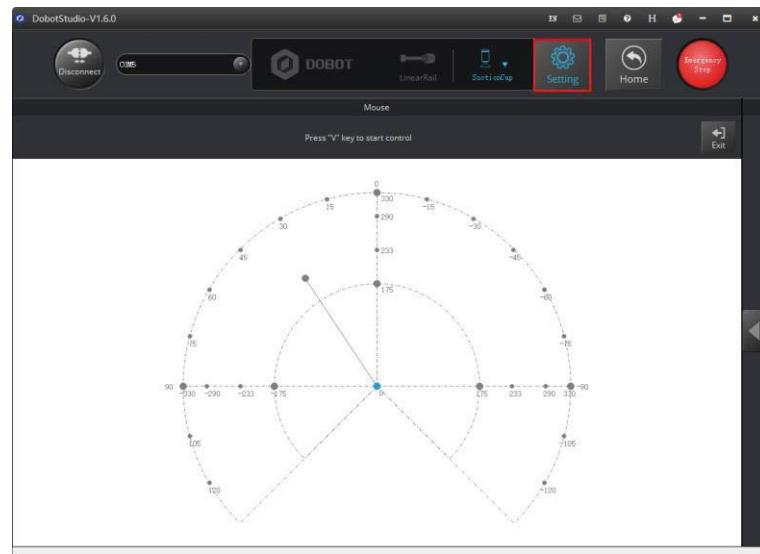

Figure 5.113 Click Setting
**Step 3** Click **Setting**, as shown in Figure 5.113.